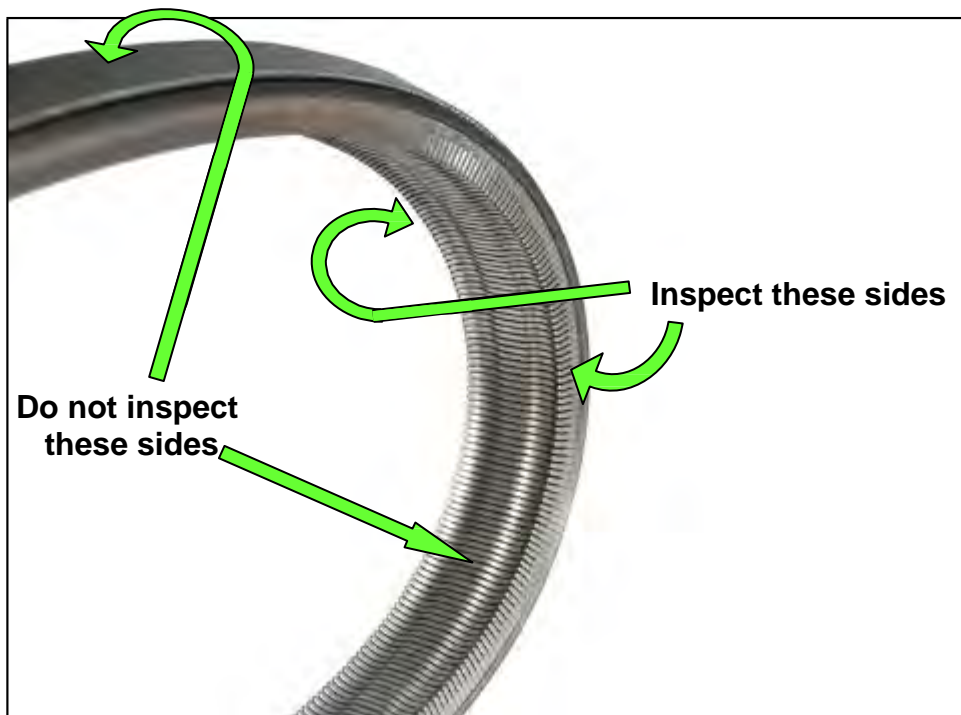

Figure 2C: New belt
2. Mark the driver's side (LH) front wheel with a suitable marking.
- Using the steps on pages 16-22 inspect the entirety of the two sides of the belt that come in contact with the pulleys (see Figure 2C).